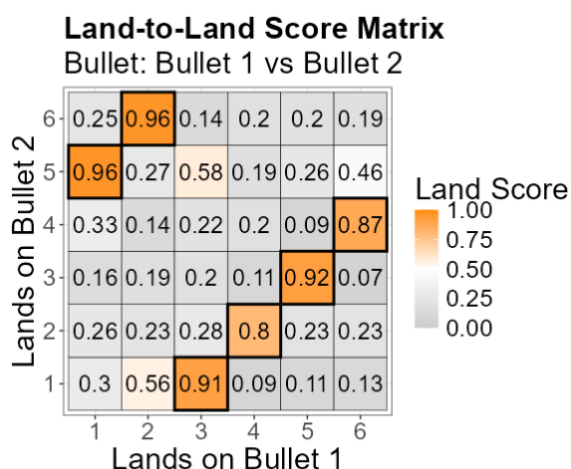

Figure 14. The land-to-land score matrix.
- BulletAnalyzr compares each land on Bullet 1 with each land on Bullet 2 to measure their similarity (Figure 14). The resulting land-to-land score matrix displays the similarity scores for every possible land pair. Each unique alignment of lands between the two bullets is referred to as a *phase*. For bullets with six lands, there are six possible phases (Figure 15). The selection of these phases is called phase-selection grouping. In the land-to-land matrix, the cells corresponding to the phase with the highest average similarity score are outlined with dark boxes